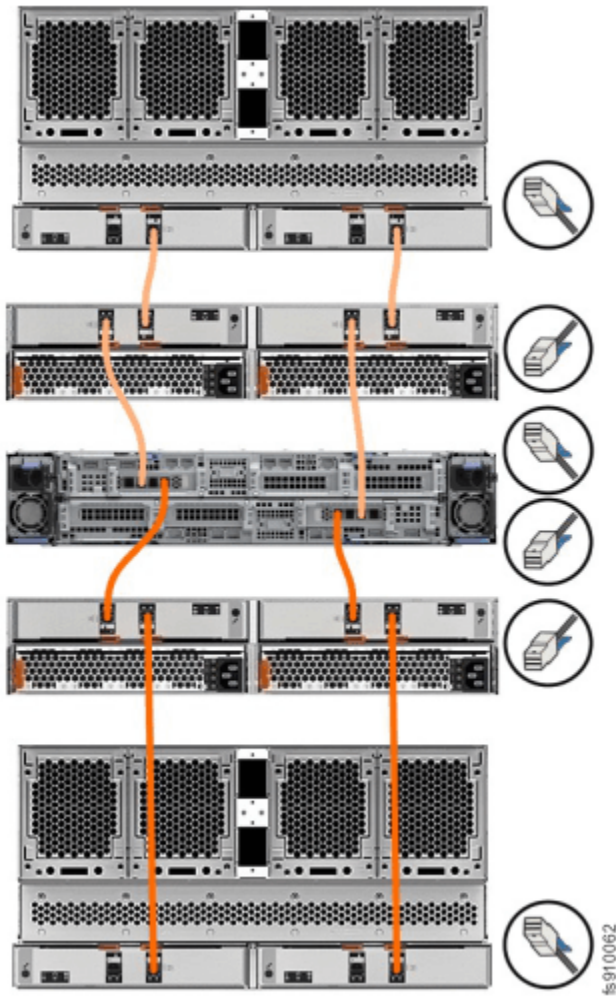

Figure 63. Connecting the SAS cables to control enclosure
- The FlashSystem models support 4-port SAS interface adapters. However, only ports 1 and 3 are used for SAS connections, as Figure 63 on page 97 shows.
- See “Enclosure location guidelines” on page 54 for the number and type of expansion enclosures that can be chained to SAS port 1 and SAS port 3 of a node canister. The expansion enclosures in this chain must be installed below the control enclosure (as shown in Figure 63 on page 97).
- Figure 63 on page 97 shows an example configuration of a control enclosure that is connected to two SAS chains.
- Figure 63 on page 97 is a generic cabling diagram intended to illustrate how to cable the different types of expansion enclosure. Some systems do not allow for a mixture of expansion enclosure types in the same chain. See Chapter 4, “Expansion enclosures,” on page 37 for details on the supported expansion enclosures for your specific system model.
Using the supplied SAS cables, connect the control enclosure to the expansion enclosure at rack position 1, as shown in Figure 63 on page 97.
To add further expansion enclosures, continue to connect the expansion canisters as shown in Figure 63 on page 97.